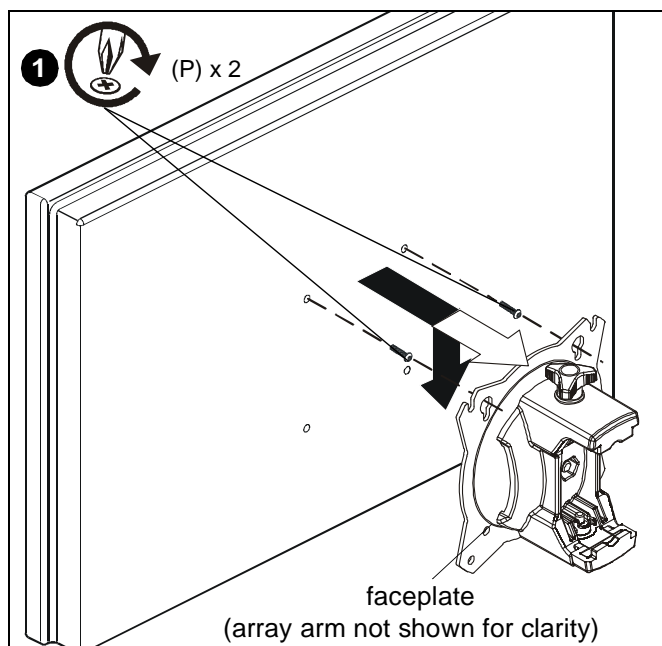

Figure 14
1. Using Phillips screwdriver, carefully install two M4 x 12mm Phillips pan machine screws (P) into the *upper* mounting holes on the display. Thread screws completely into display, then back out 3 complete turns. (See Figure 14)
2. Pick up and align display so that screws (P) (installed on the back of the display in the previous step) fit into the mounting holes on the faceplate. Lower the display firmly into place. (See Figure 14)